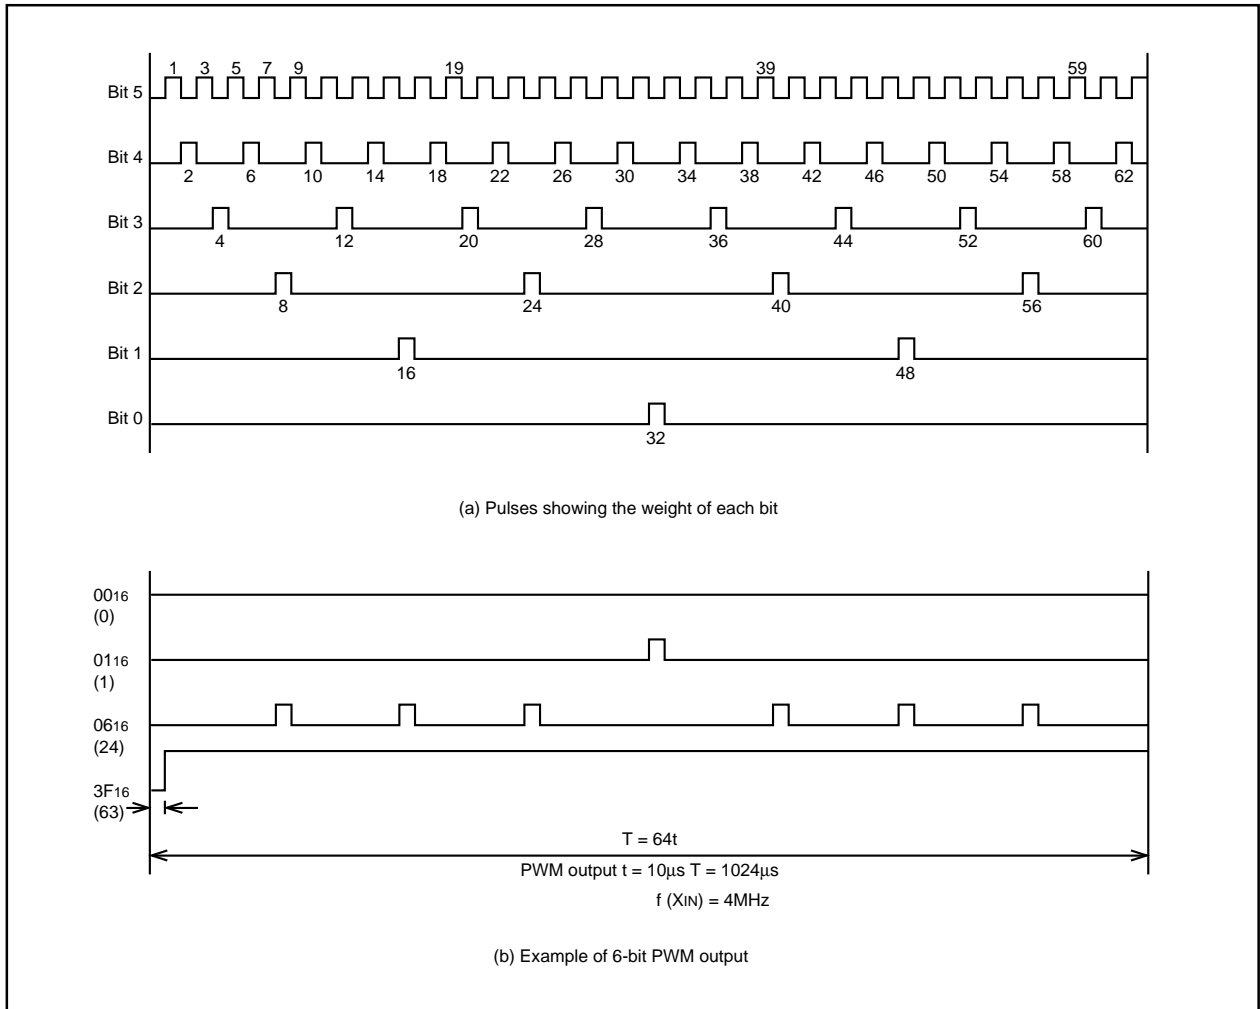

Fig. 13 6-bit PWM timing
(4) Operation of the 6-bit PWMs
The timing diagram of the eight 6-bit PWMs (PWM0-7) is shown in Figure 13. One period (T) is composed of 64 (2⁶) segments. There are six different pulse types configured from bits 0 to 5 representing the significance of each bit. These are output
within one period in the circuit internal section. Refer to Figure 13 (a).
These can be selected by bits 0 through 5. Depending on the content of the 6-bit PWM latch, pulses from 5 to 0 are selected. The PWM output is the difference of the sum of each of these pulses. Several examples are shown in Figure 13 (b). Changes in the contents of the PWM latch allows the selection of 64 lengths of high-level area outputs varying from 0/64 to 63/64. A length of entirely high-level output cannot be output, i.e. 64/64.